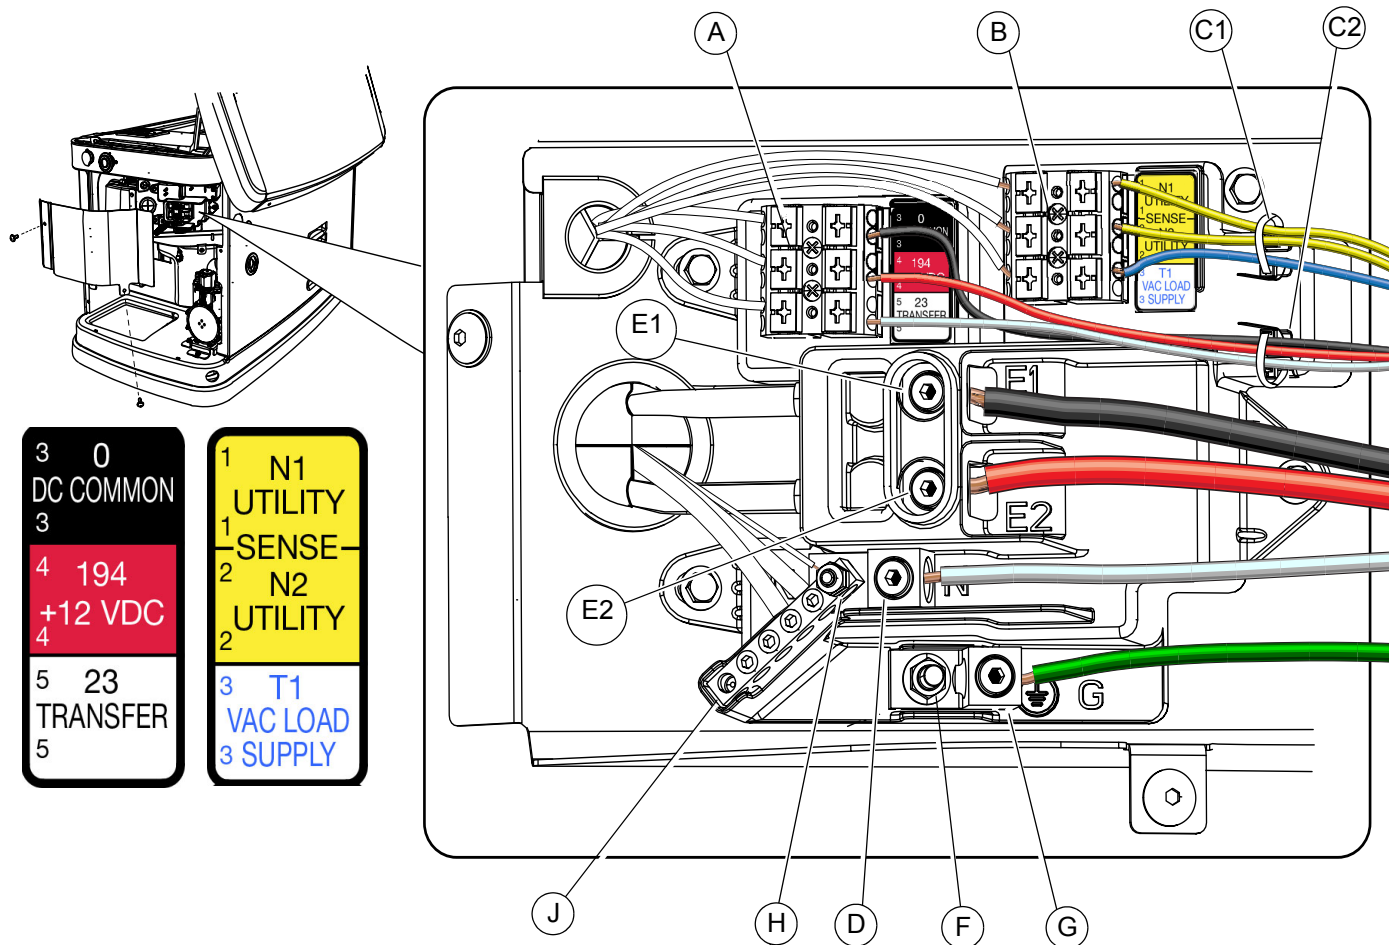

Figure 6-1. I Electrical Wiring Connections
See Figure 6-1. The electrical wiring enclosure is located behind an access panel on the intake end of the unit. Remove the intake side panel as directed in Intake Side Panel Removal, and then remove the access panel. Connect wires according to the diagram and tables.
4. Strip the insulation from the ends of the wires. Do not remove excessive insulation. See Figure 6-1. Route the sense wires through the supplied wire tie (C1), and connect to the sense wire terminal block (B). Push down on the spring loaded connection point with a flat head screwdriver, insert wire, and release.
5. Using the same process, route the control wires through the second supplied wire tie (C2), and connect to the control wire terminal block (A).
2. See Figure 6-1. Loosen the lugs at neutral (D), ground (G), and power wire (mains) terminals (E1, E2).
NOTE: Neutral bonding – For installations that require the neutral to be bonded to the ground, this is done on the customer connections terminals inside the generator. See Figure 6-1. Connect a suitably sized wire from the neutral bar (J) to the ground stud (F). Torque the nut on the ground stud to 35 in-lbs (3.95 Nm). This is normally required when the generator is the source in a separately derived system. The installation must be made in accordance with NEC Articles 250.30 and 250.35(A) if the generator will be installed as a separately derived system.